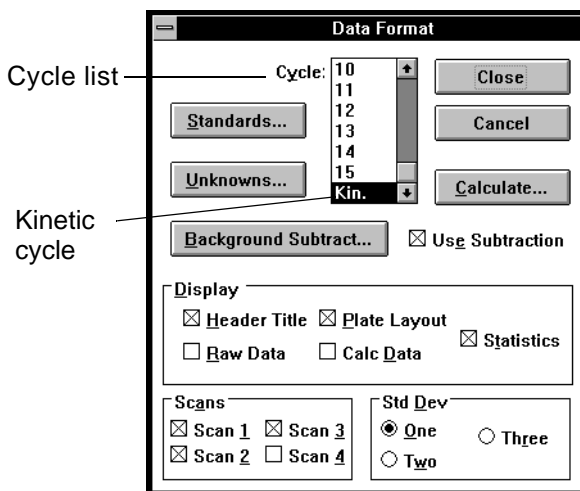

Figure 3-9 Data Format Dialog Box
1. Select **Format** from the Data menu (Alt, D, F). The Data Format dialog box appears (Figure 3-9).